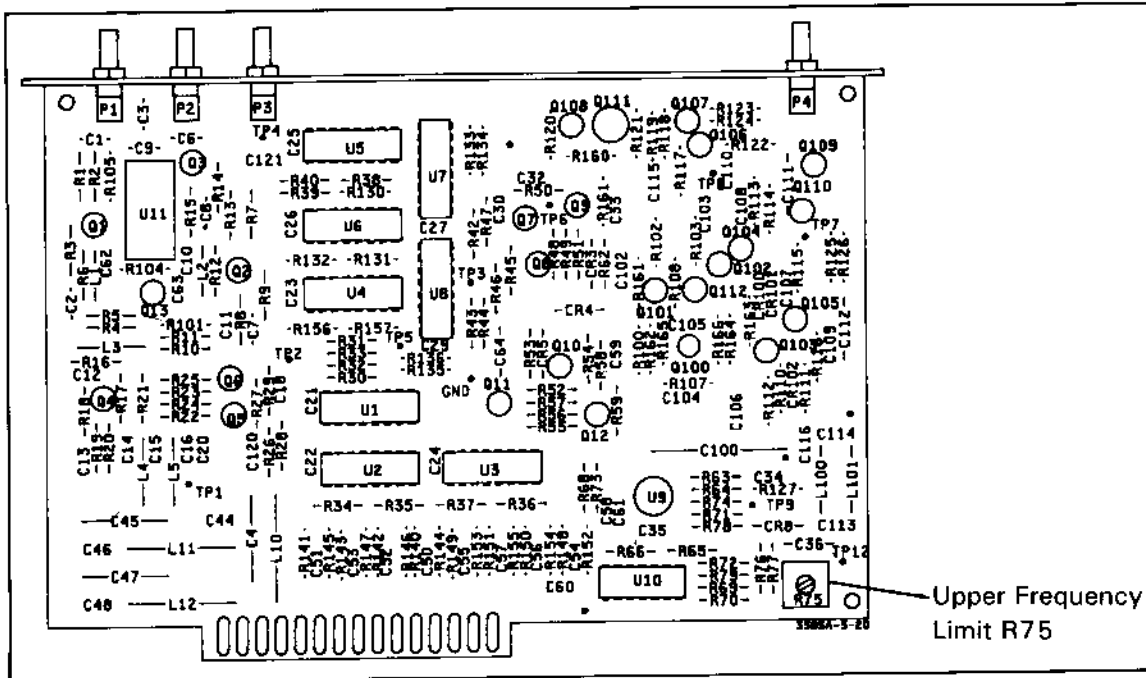

Figure 5-20. Step Phase Detector Board (A26)
s. With the cable at A23J1 still disconnected, adjust A26R75 so that the frequency counter reads $144\text{MHz} \pm 0.5\text{MHz}$ (see Figure 5-20).